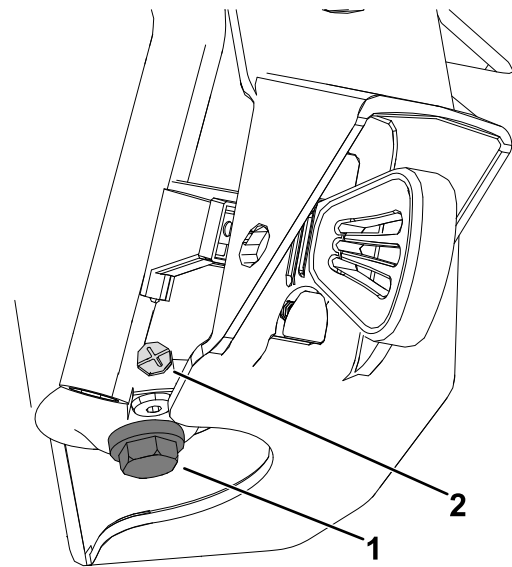

Figure 29
B. Unscrew, but do not remove, the small screw on the side of the carburetor fuel bowl (Figure 29) until the fuel begins to drain from the carburetor.